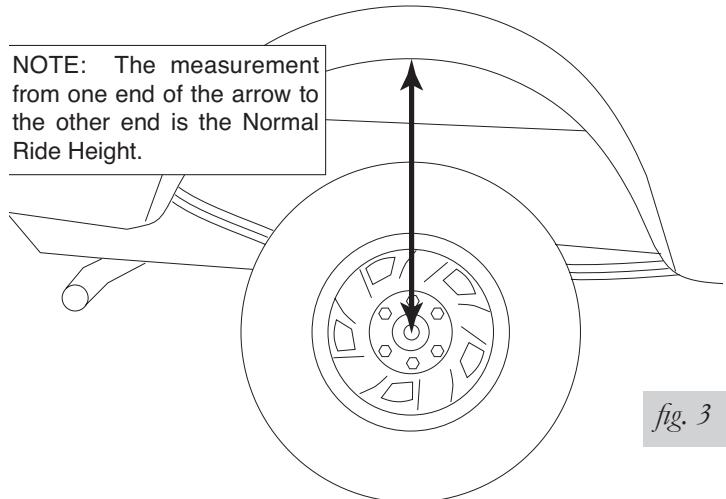

fig. 3
3. Measure the distance between the center of the hub and the bottom edge of the wheel well (Figure 3). This is the Normal Ride Height. Enter the measurement below: